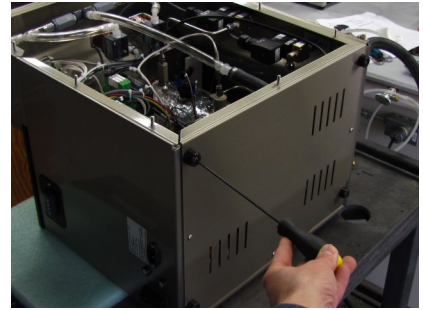

Figure 29
29. Replace the bottom panel using an 1/8" hex wrench as shown in Figure 29. Also replace the clear plastic back panel.